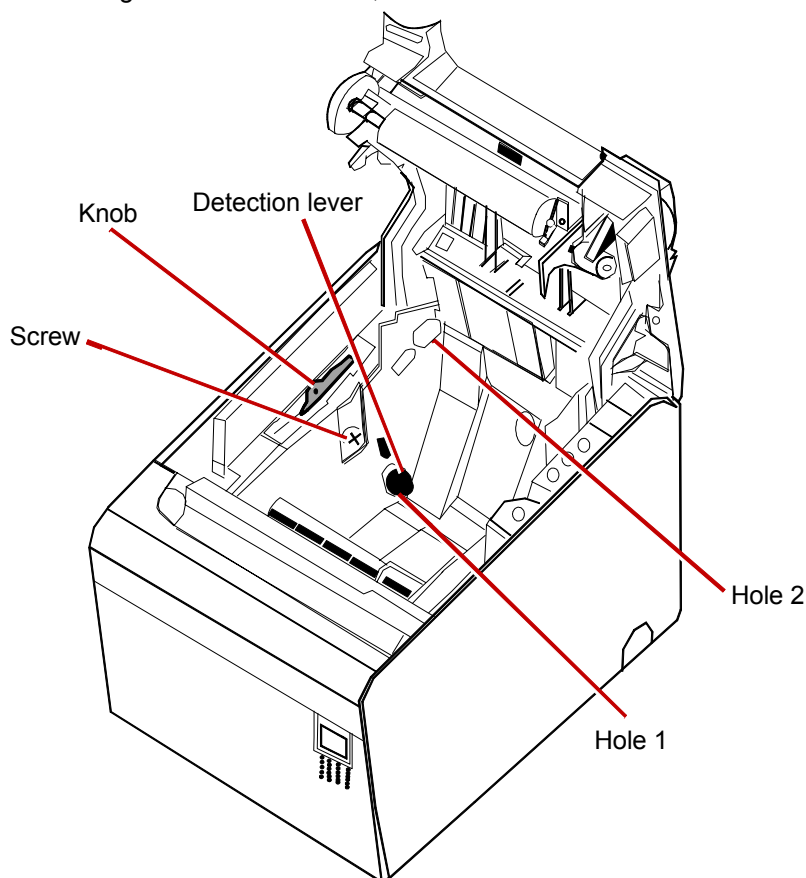

Figure C.2 Changing the Near-end Adjusting Position
3. Change the paper roll near-end sensor position, to detect the paper near-end correctly when the printer is attached to a wall. (Refer to Figure C.2)